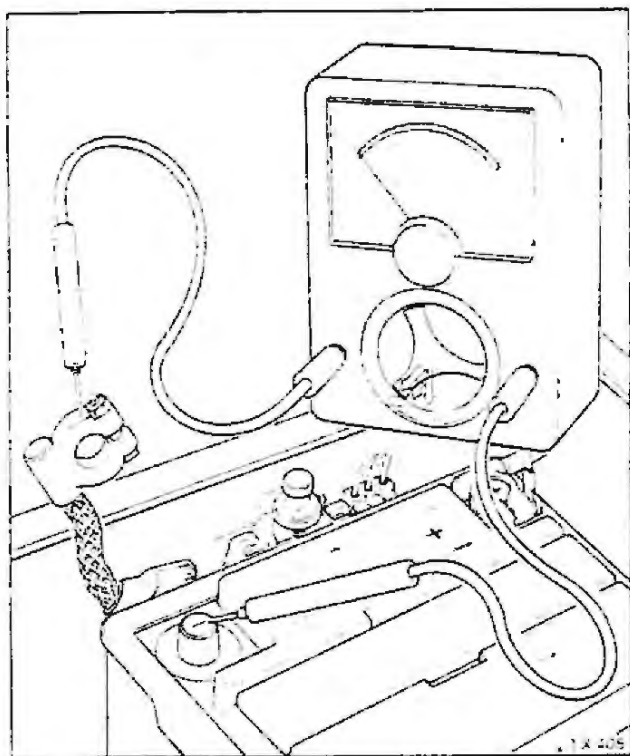

Fig. 1 Measuring battery current drain
5. Check the battery current drain by inserting a suitable ammeter in series with the main battery earth cable and the main battery earth point on the body (see fig. 1). Ensure that all electrical systems are off before commencing with this check. Select a suitably high current range to start with - say 10A. The scale can then be reduced to 100 mA.